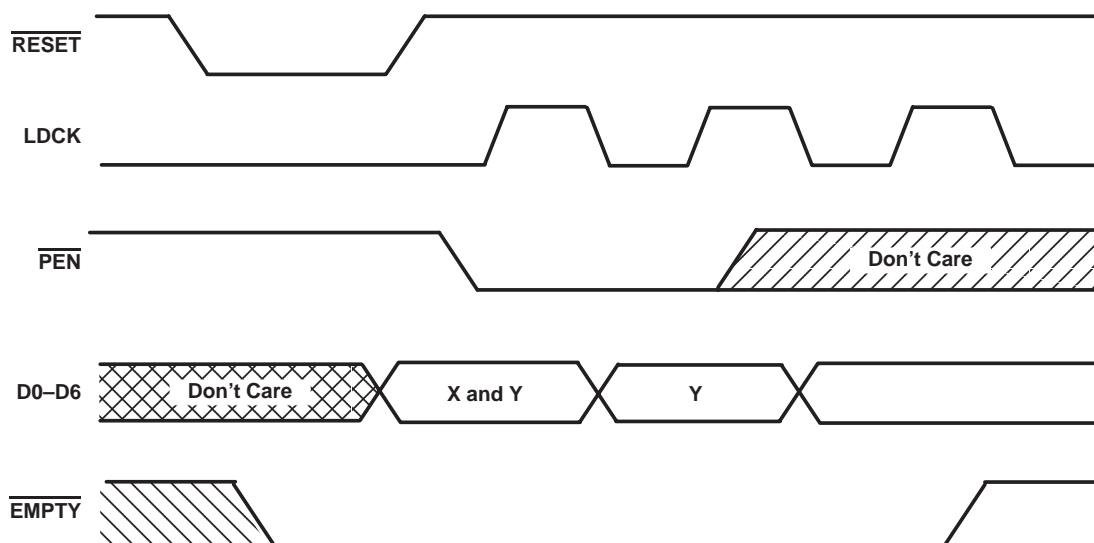

Figure 1. Programming X and Y Separately
To program the offset values,  $\overline{\text{PEN}}$  can be brought low after reset only when LDCK is low. On the following low-to-high transition of LDCK, the binary value on D0–D6 is stored as the almost-empty offset value (X) and the almost-full offset value (Y). Holding  $\overline{\text{PEN}}$  low for another low-to-high transition of LDCK reprograms Y to the binary value on D0–D6 at the time of the second LDCK low-to-high transition. Writes to the FIFO memory are disabled while the offsets are programmed. A maximum value of 127 can be programmed for either X or Y (see Figure 1). To use the default values of X = Y = 32,  $\overline{\text{PEN}}$  must be held high.
**timing requirements over recommended operating conditions (see Figures 1 through 3)**